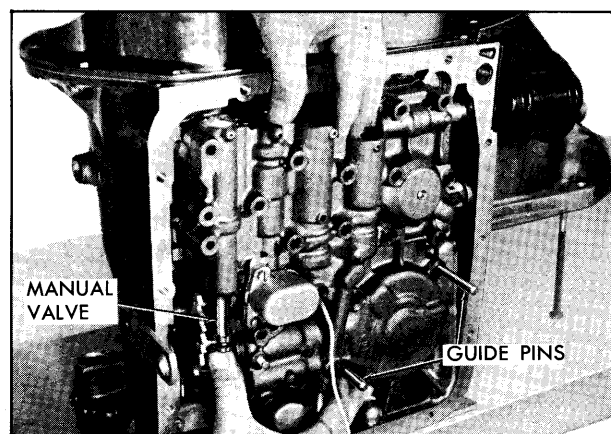

Fig. 7E-219 Installing Control Valve
8. Install the stator solenoid assembly and gasket with attaching bolts. Connector wire should face away from rear servo. (Fig. 7E-216)